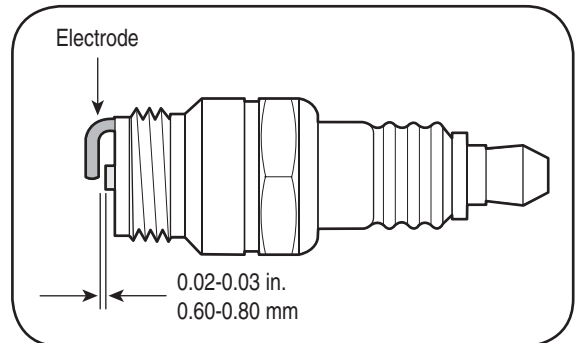

Figure 3-3: Use a feeler gauge to measure the plug gap.
3. Measure the plug gap with a feeler gauge. Correct as necessary by bending side electrode, Figure 3-3. The gap should be set to 0.02-0.03 inches (0.60-0.80 mm).